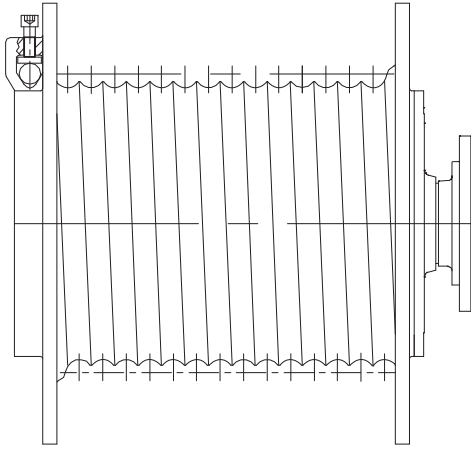
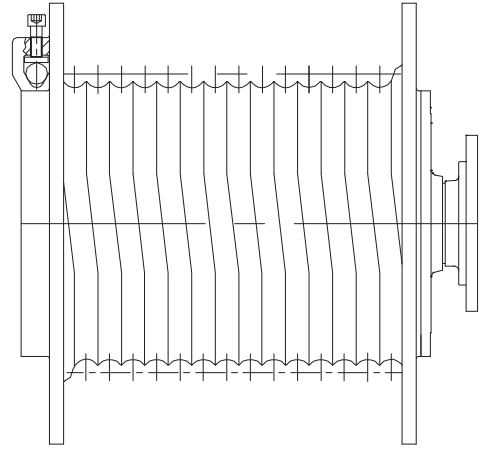

图1/ Figure 1
图2/ Figure 2
- 1) 标准沟槽卷筒 (图1) 和特殊沟槽卷筒 (图2)。
- 2) 沟槽方向分左旋和右旋, 默认为右旋 (图1)。
- 1) Drum with normal grooves (figure 1) and with special grooves (figure 2).
- 2) Rope groove has right hand lead and left hand. The default lead is right hand (figure 1).